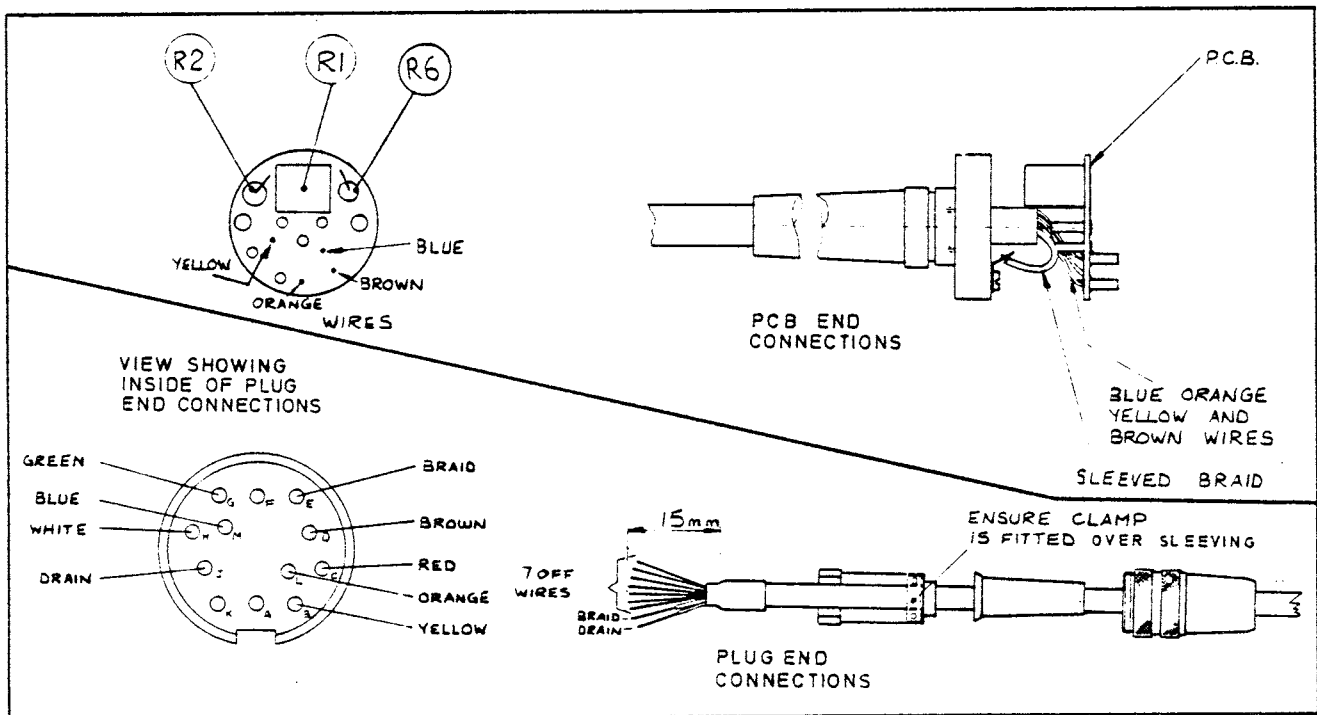

Fig. 4 Cable assy. wiring details.
15. The cable assy. includes the 12 pin male connector and therefore only requires connections to be made at the p.c.b. However Fig. 4 gives details of the interconnections to both p.c.b. and the 12 pin male connector should the user require to change only the plug and not the complete cable assy.